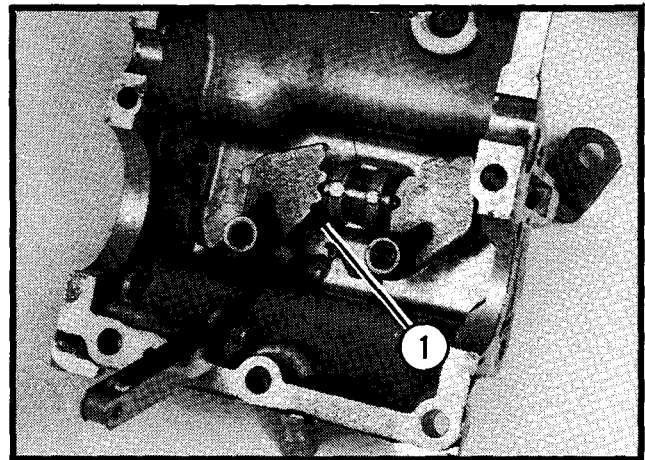

Figure 2.
1. Check interlock sleeve for correct clearance in all four gear positions, (low, second, high, and reverse. **DO NOT check in neutral**). See Figure 2.